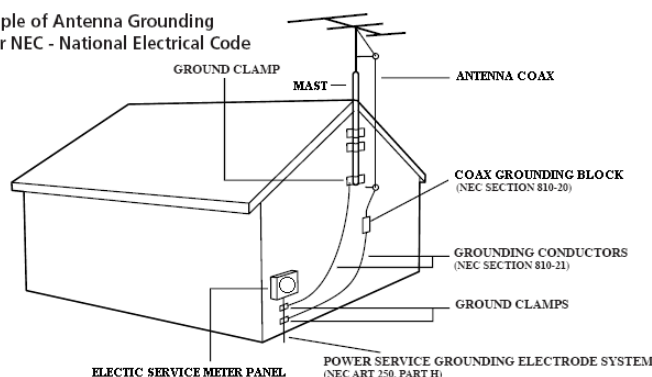

Figure 1
15. Outdoor Antenna Grounding – If an outside antenna or cable system is connected to the product, be sure the antenna or cable system is grounded so as to provide some protection against voltage surges and built-up static charges. Article 810 of the National Electrical Code, ANSI/NFPA70, provides information with regard to proper grounding of the mast and supporting structure, grounding of the lead-in wire to an antenna discharge unit, size of grounding conductors, location of antenna-discharge unit, connection to grounding electrodes, and requirements for the grounding electrode. See Figure 1.